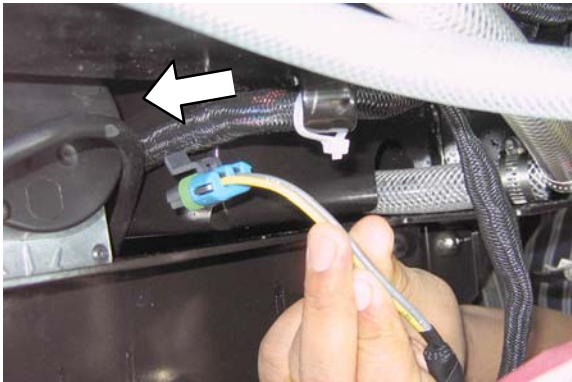

Fig. 18
- Route the extension wire harness towards the rear of the machine along side the machine's harness as shown (Figure 18).